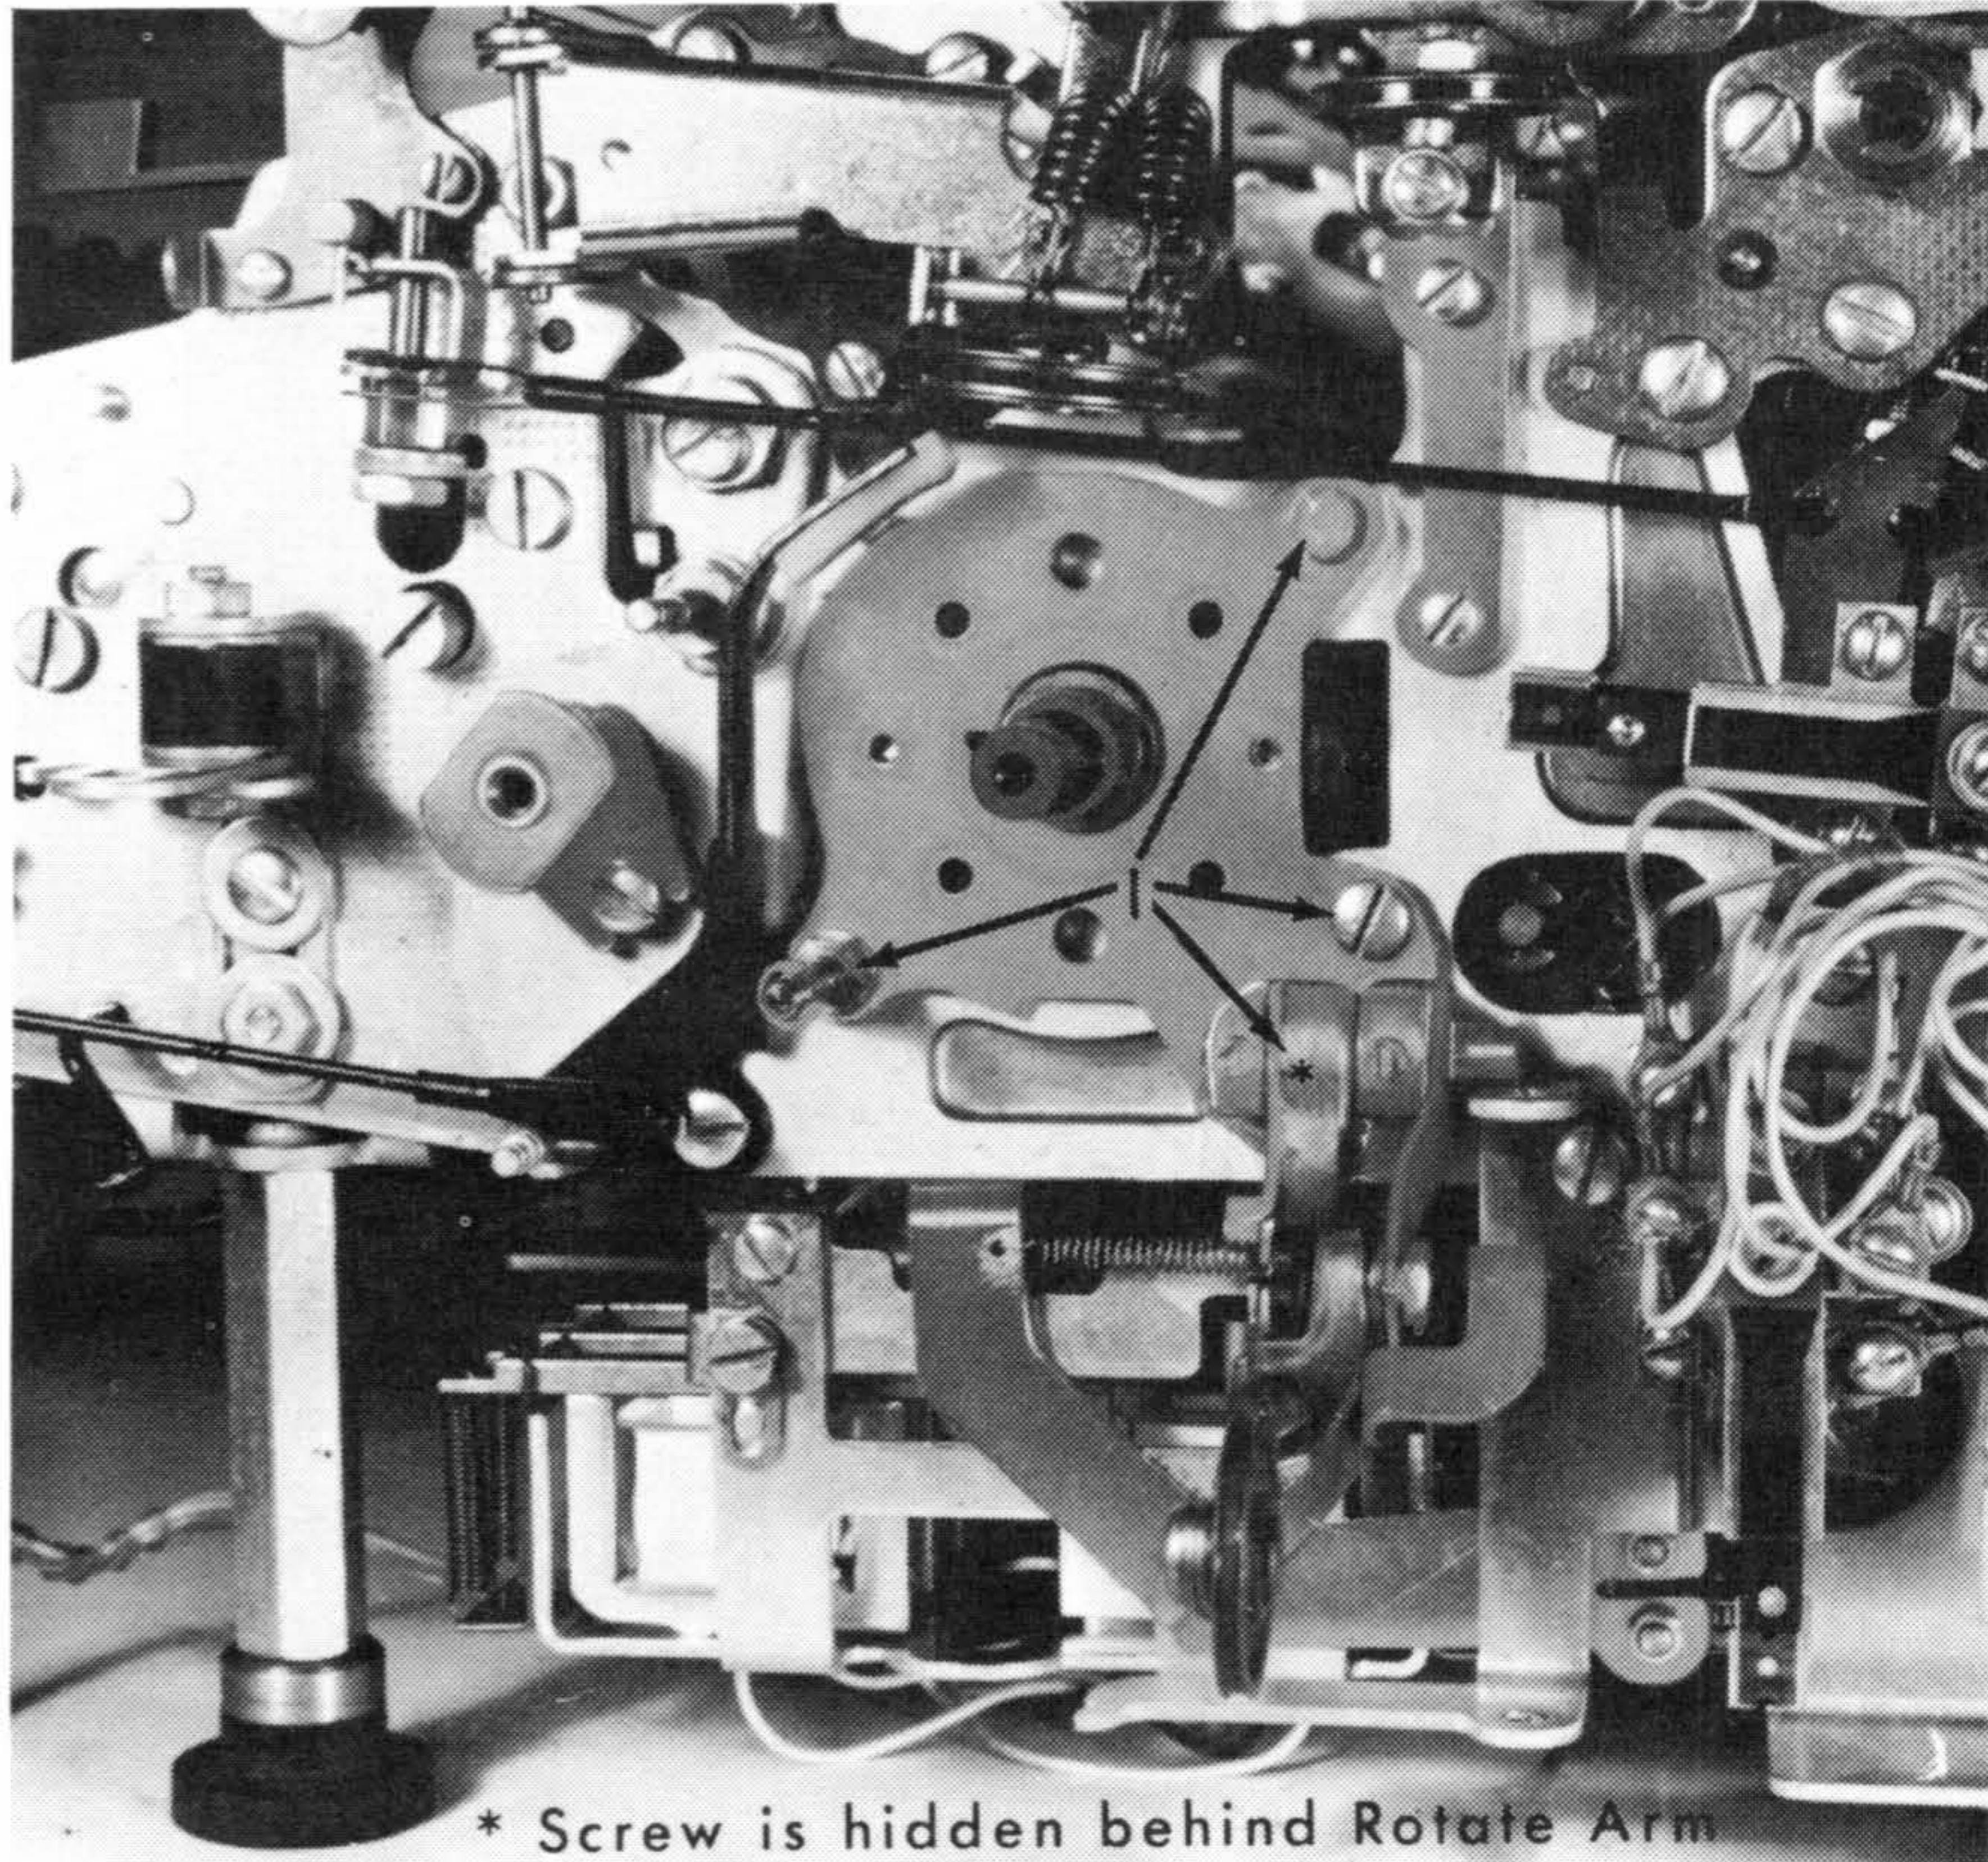

Figure 50. Operational Shaft Removal
2. Remove the two lugs and two screws from the bearing mounting plate (#1, Figure 50) and slide the plate off.